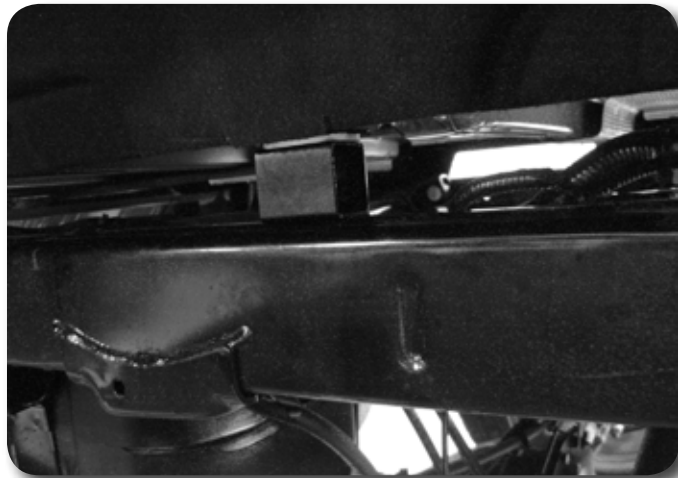

Figure 8
31. Remove the pad from the frame rail bed supports and place it on the provided steel tube bed spacer. Using the self tapping 5/16" bolt fasten the bed spacer to the frame. Do not overtighten, the bed will hold the block in place once the mounts are torqued. See Figure 8